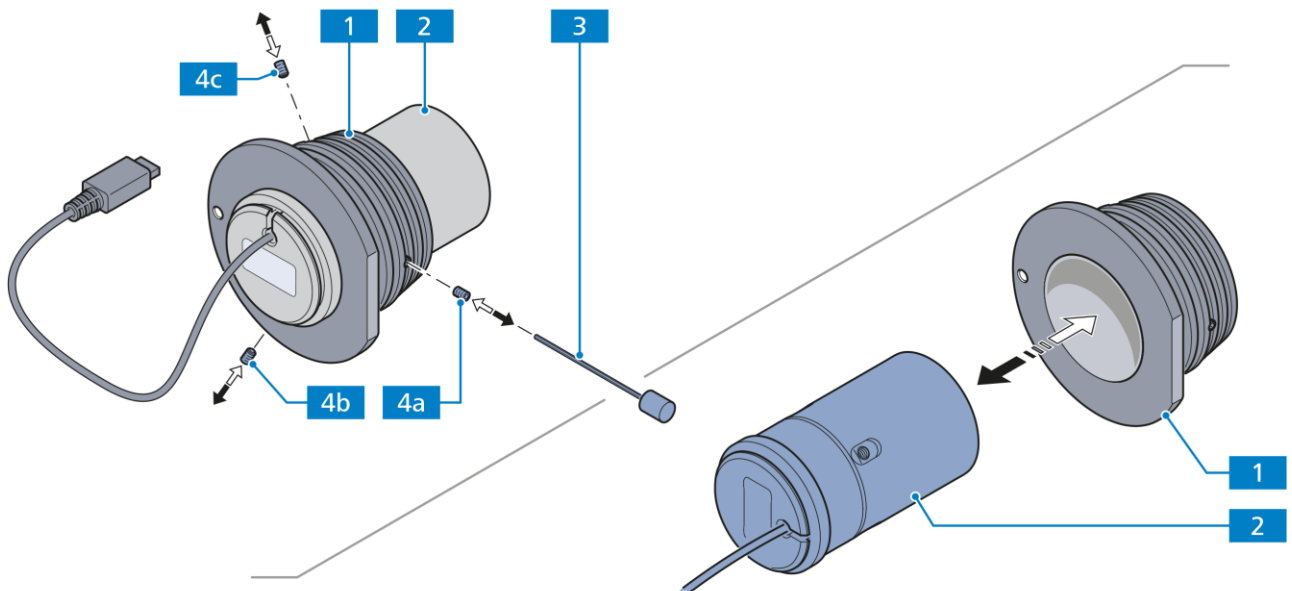

Fig. 3-24 Changing the LED illuminator in the adapter
- Loosen the three side screws (Fig. 3-24/4a, 4b, 4c) with an Allen wrench (AF 2.5) (Fig. 3-24/3) and remove the old LED illuminator (Fig. 3-24/2) from the adapter (Fig. 3-24/1).